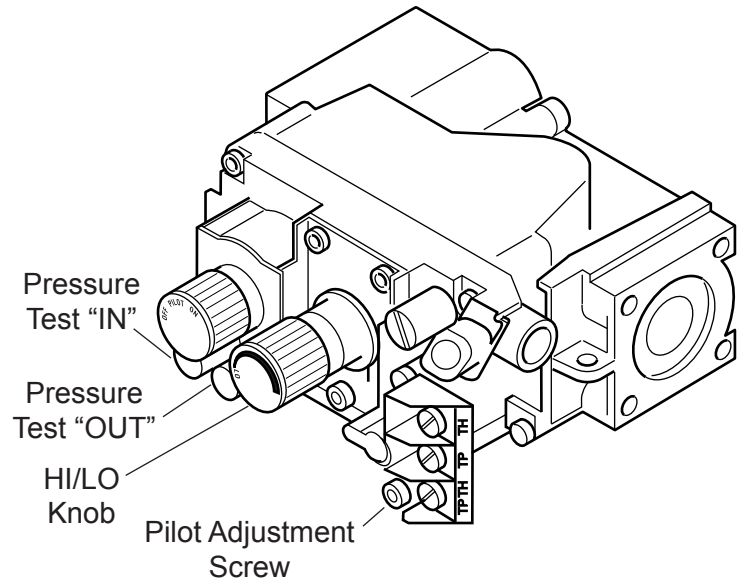

Figure 16 - Gas Pressure Check at Gas Valve
5. To check gas pressures at valve, turn captured screw counter clockwise 2 or 3 turns and then place tubing to pressure gauge over test point. Turn unit to high. *See Figure 16.* After taking pressure reading, be sure and turn captured screw clockwise firmly to reseal. Do not over torque. Check test points for gas leaks with a soap and water solution or an electronic gas leak detector.